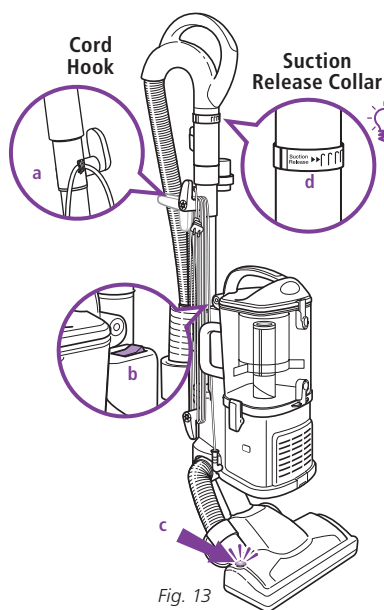

Fig. 13
- 2 Secure the power cord in the cord hook (a). (Fig. 13)
- 3 Press the On/Off switch (b) to the "I" position to vacuum bare floors (straight suction only) or to the "II" position to engage the motorized floor brush (for vacuuming carpets and rugs). (Fig. 13)
! IMPORTANT: The motorized brush indicator light (c) will illuminate green when motorized floor brush is on, or red if there is a blockage or a jam. (Fig. 13) This feature is designed to protect your Lifetime Belt that powers your motorized floor brush. See Checking for Blockages on page 16.
- 5 Due to the huge suction power of this vacuum, it may become necessary at times to adjust the suction release (d) on the handle. (Fig. 13) If the vacuum seems difficult to push or pull or if it is lifting up area rugs, adjust the suction release by rotating the collar 90° counterclockwise to open the valve. Rotate the collar clockwise to close the valve when you need high suction and for vacuuming floors.